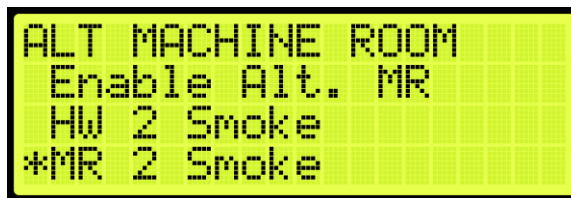

Figure 569: ALT MACHINE ROOM Menu – MR 2 Smoke
3. From the ALT MACHINE ROOM menu, scroll and select MR 2 Smoke (See Figure 569).
- From the ALT MACHINE ROOM menu, scroll and select MR 2 Smoke (See Figure 569).